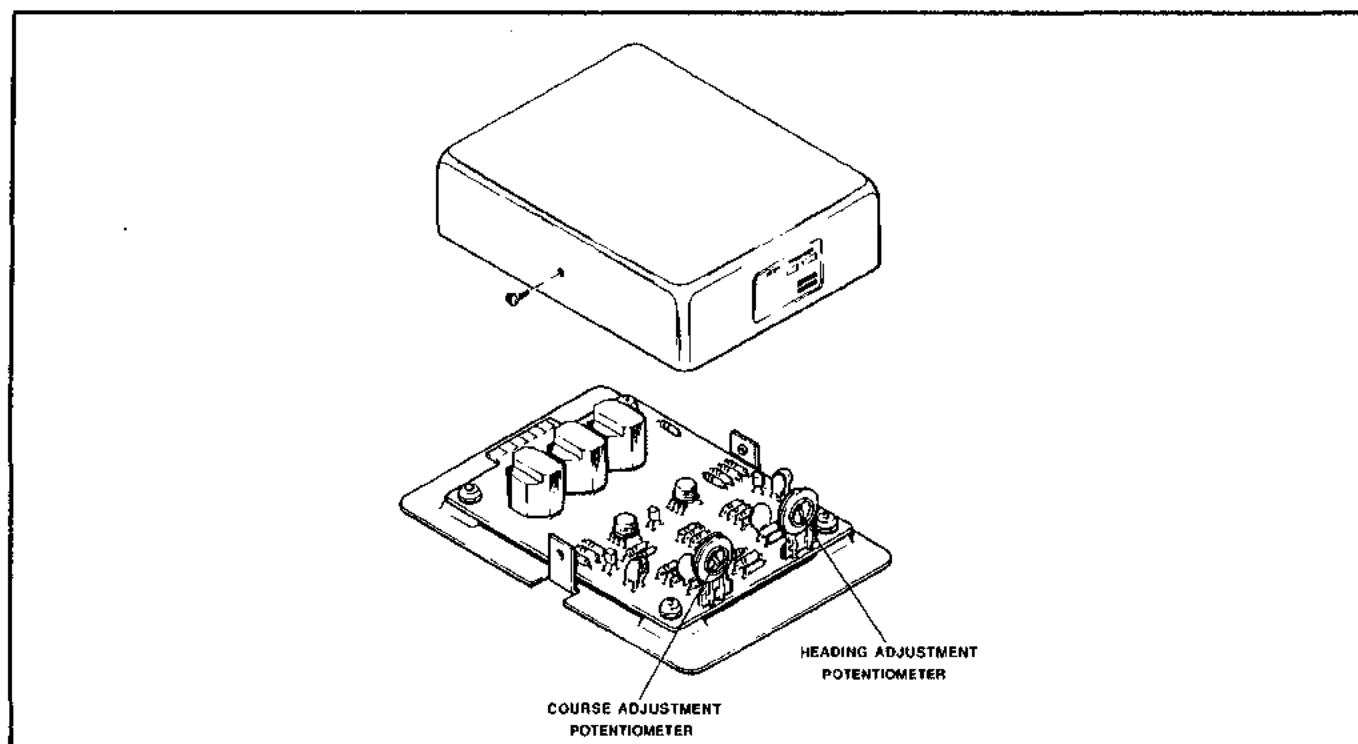

Figure 5-12. KA-52 Autopilot Adapter
- a. KA-52 AUTOPILOT ADAPTER ALIGNMENT PROCEDURE. (Refer to Figure 5-12.)
5. Remove cover from KA-52 autopilot adapter (refer to Figure 5-12) to gain access to the adjustment potentiometers.